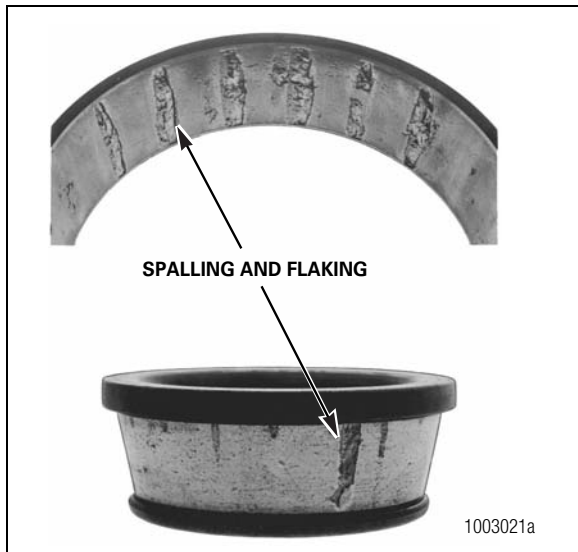

Figure 4.5
- The cup and cone inner race surfaces that touch the rollers are damaged. Figure 4.5.